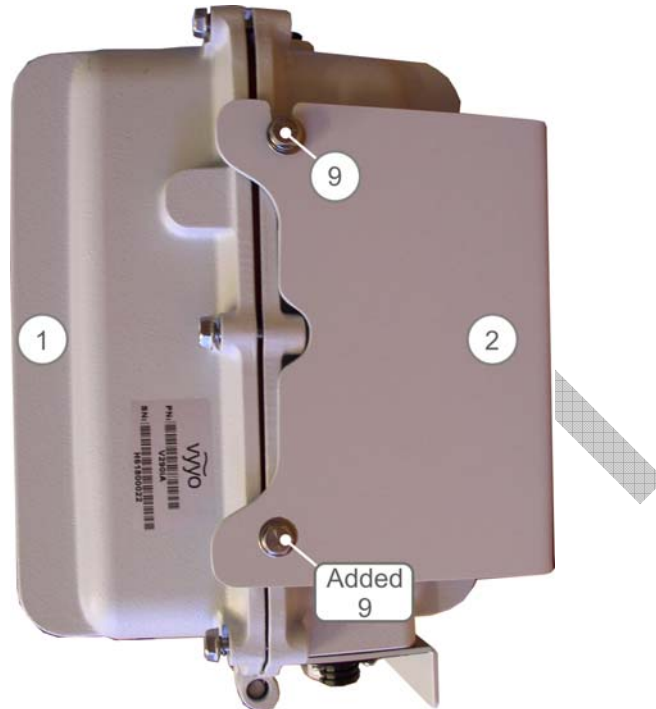

Figure 13: Wall Mounting – Screwing in the Remaining ¼" Screws
7. Screw the remaining two ¼" screws (9) into the bottom of the main bracket, one on each side of the bracket. Figure 13 shows the addition of one ¼" screw (9).